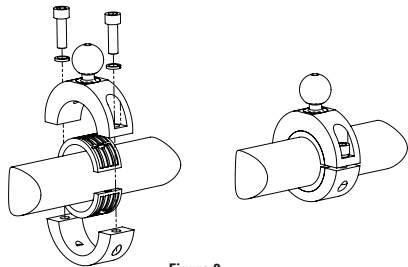

Figure 2
3. Using the $5/32$ " Hex Key, disassemble the bottom portion of the Mount and reassemble onto handlebar as shown in **Figure 2**. Use the 1" Spacers or $7/8$ " (22mm) Spacers to match the handlebar diameter if necessary.